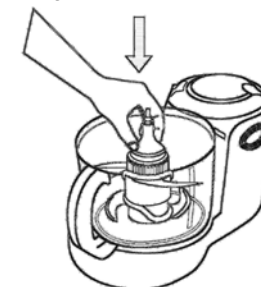

Fig. 4
2. Then insert onto the shaft of the processor bowl. Always hold the chopping blade by the upper plastic part. (Fig. 4)